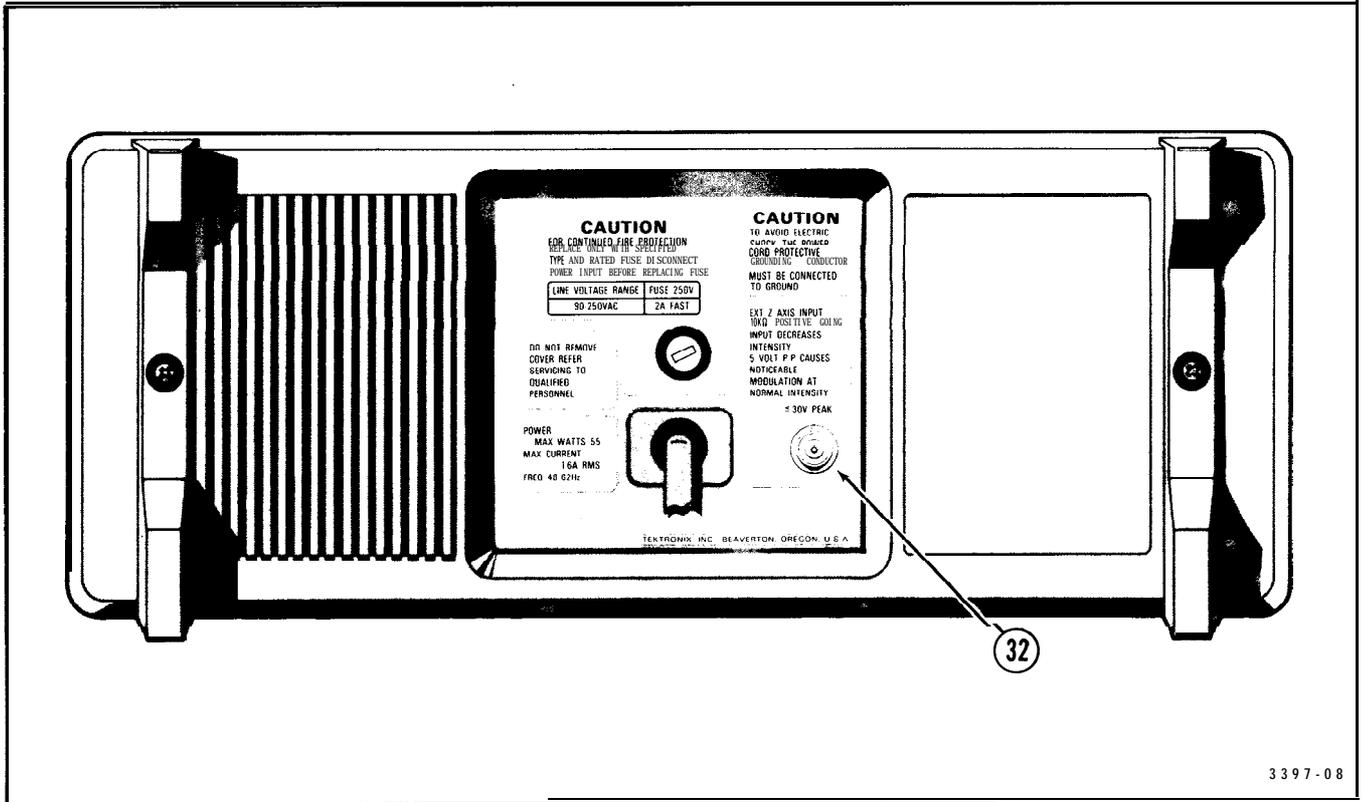

Figure 7. Rear-panel connector.
Refer to Figure 7 for location of item 32.
- ③ **EXT Z AXIS Connector**-Provides a means of connecting external signals to the Z-axis amplifier to